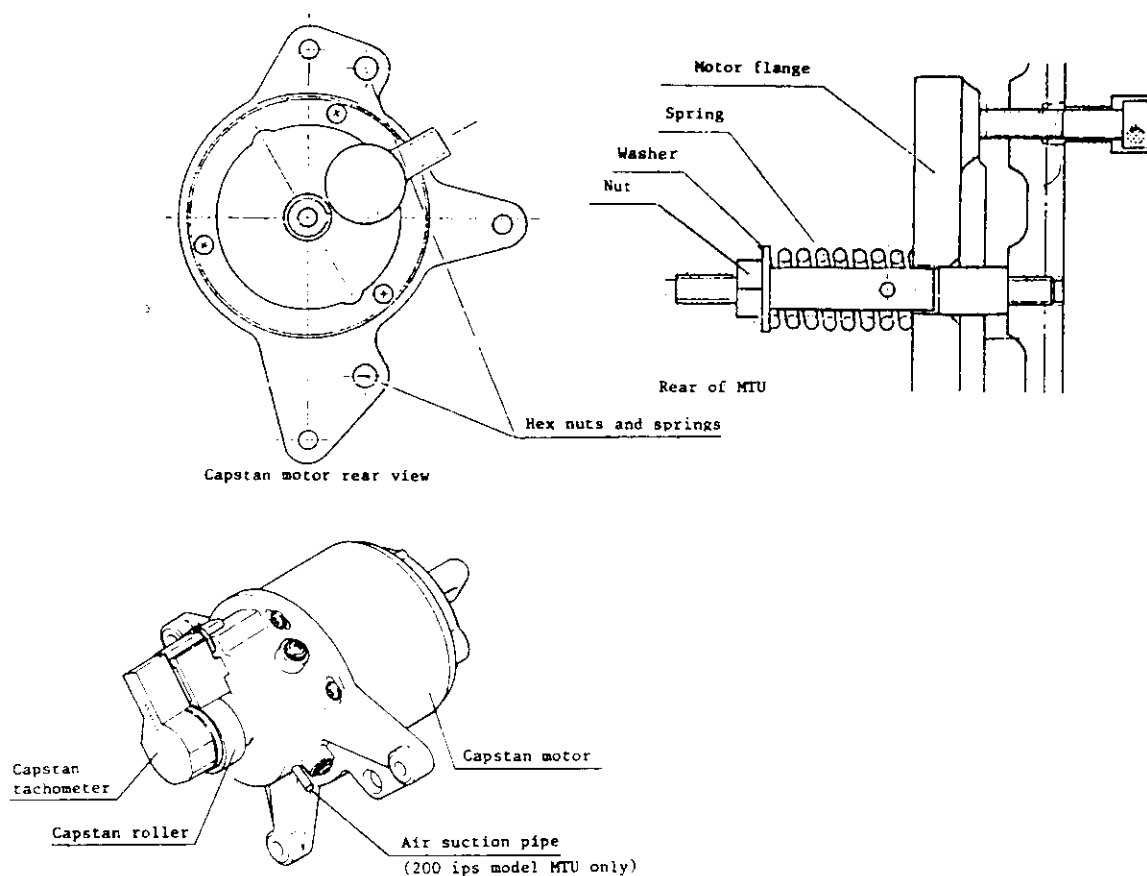

Figure L.8 Capstan motor
- (1) Disconnect connectors CNJ51 and CNP82.
- (2) Remove four nuts, washers, and springs accessible from the rear of the MTU, as shown in Figure L.8.
- (3) Carefully slide the motor out and off the shaft.